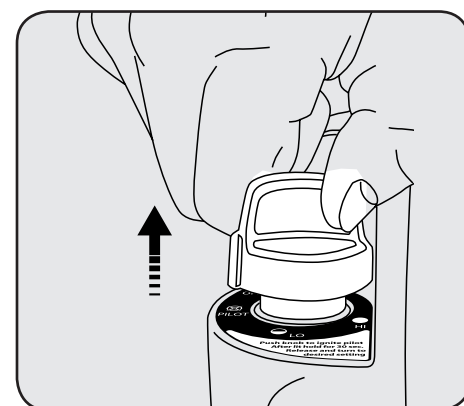

Figure 5
8. After lighting pilot, release knob. Knob should return to fully extended position. See Figure 5. (If needed, repeat these steps until pilot lights).
9. After lighting pilot, release knob. Knob should return to fully extended position. See Figure 5. (If needed, repeat these steps until pilot lights).